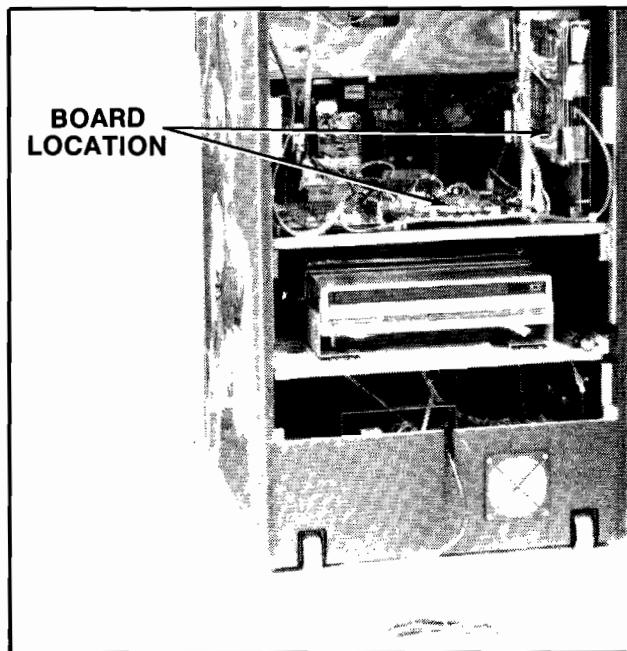

Figure 3-5 Removing the P.C.B.'
1. UPRIGHT MODEL. See Figure 3-5.